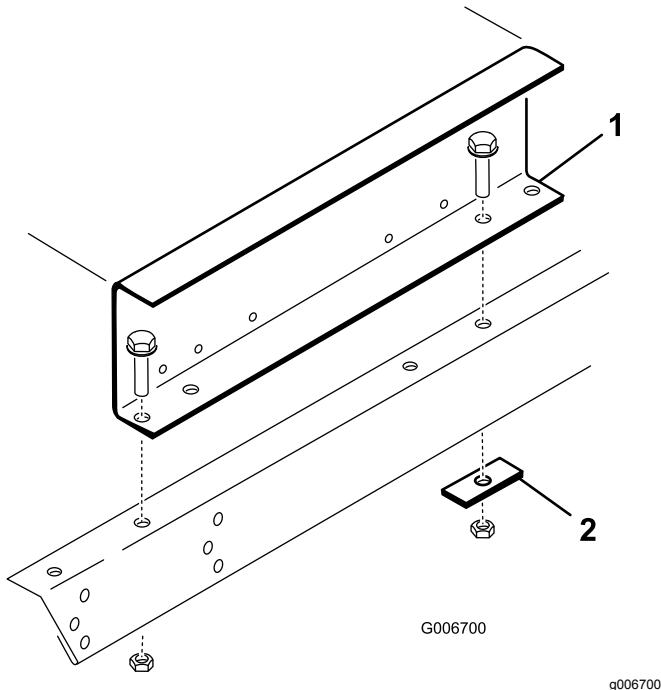

Figure 16
3. Position the lift onto the frame, aligning the mounting holes with the holes in the frame (Figure 16).
4. Mount each side of the lift to the frame channels with a reinforcing plate and 2 cap screws (3/8-16 x 1 inch) and flange nuts (Figure 16).